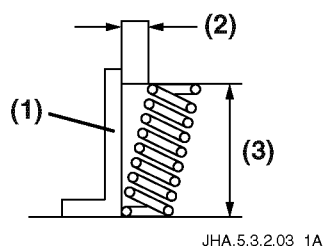

Figure 5-21
- Measure the spring inclination (**Figure 5-21, (2)**).